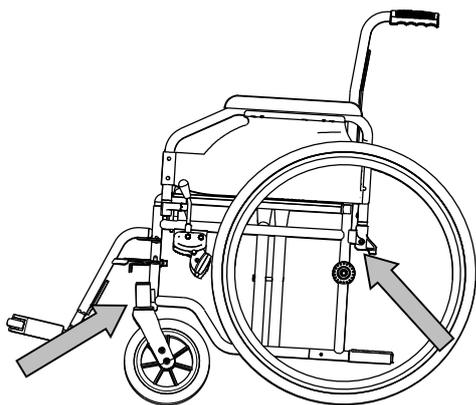

Figure 1
6. Mount the front securement straps according to the instructions of the strap-system manufacturer at the indicated place. (figure 1) This place is marked on the wheelchair with a symbol. (figure 2)
9. Mount the back securement straps according to the instructions of the strap-system manufacturer at the indicated place. (figure 1)